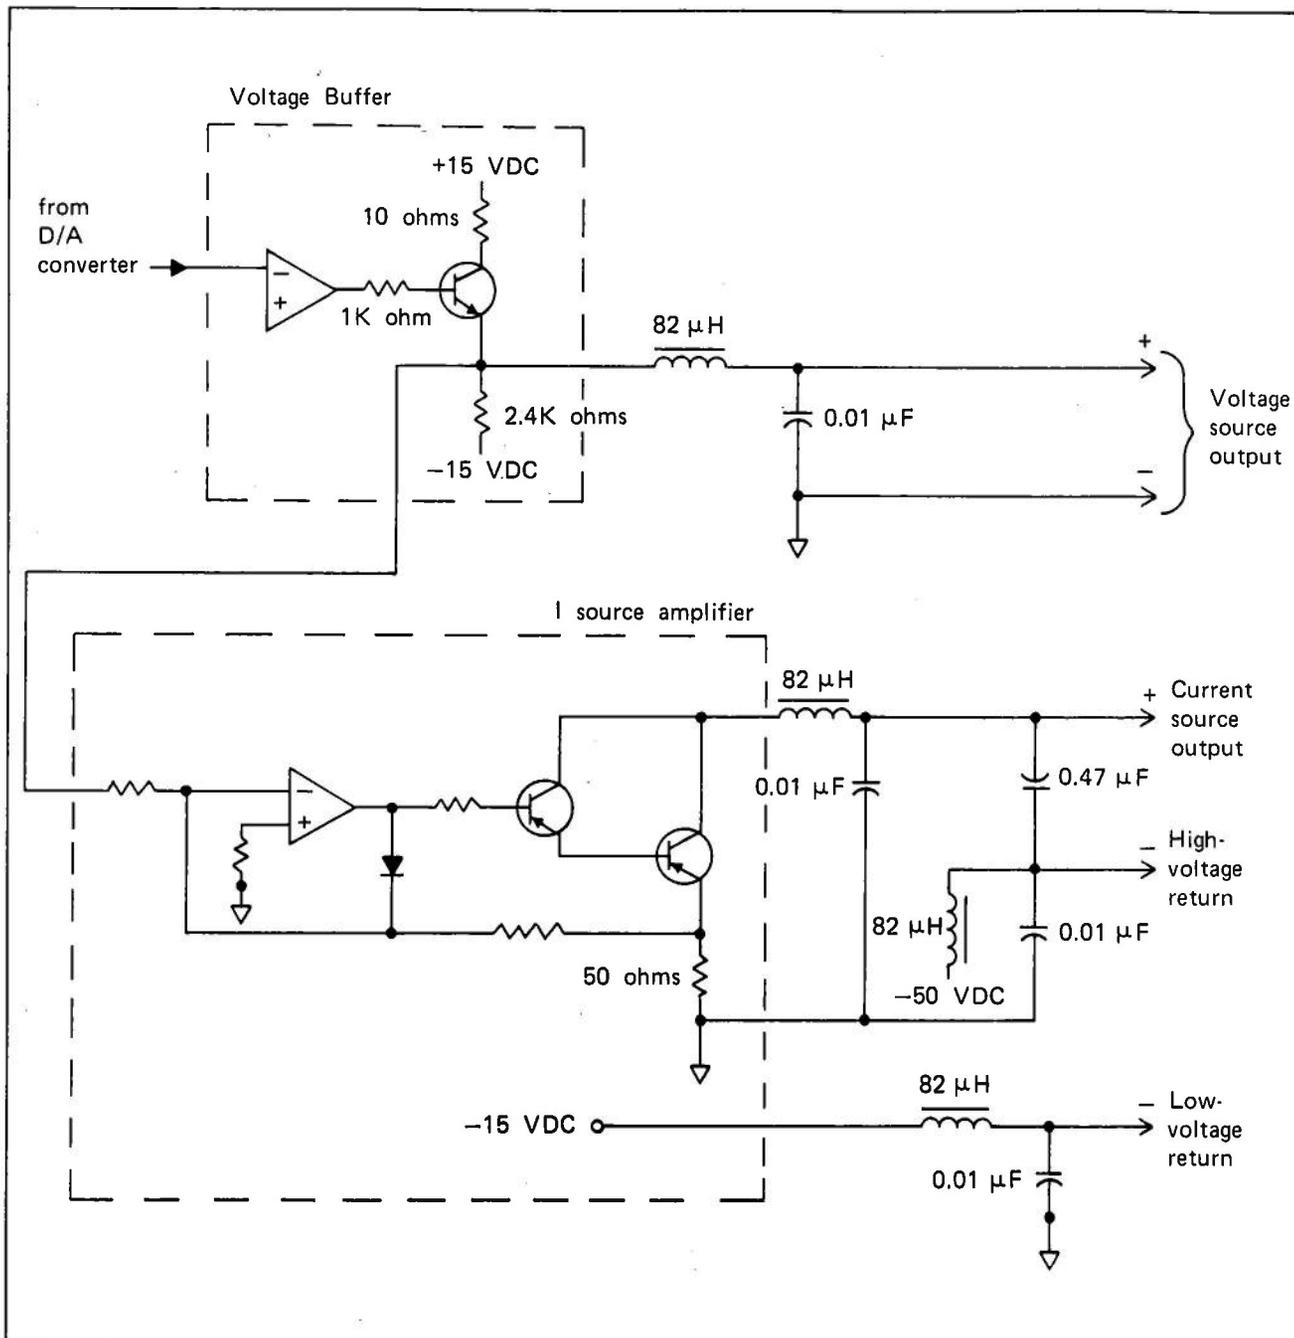

Figure 10 – D/A Top Channel Driver Circuits
**Voltage Buffer** — This is a unity gain voltage follower that provides a high-impedance load for the D/A output. In addition, the stage contains LC filters that help protect the circuitry from the effects of electrical noise. (See Figure 10.)